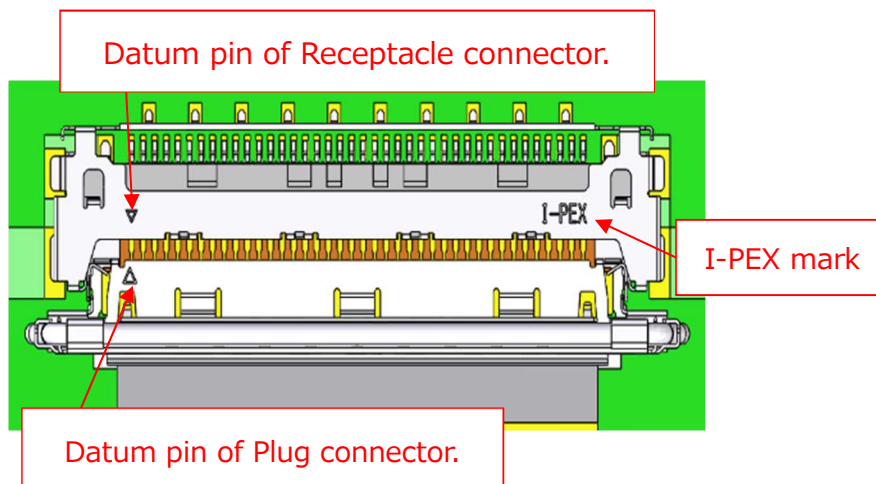

Fig. 3
- ① As shown in Fig.3, please set so that the datum pin mark of Plug connector and Receptacle connector are matched.